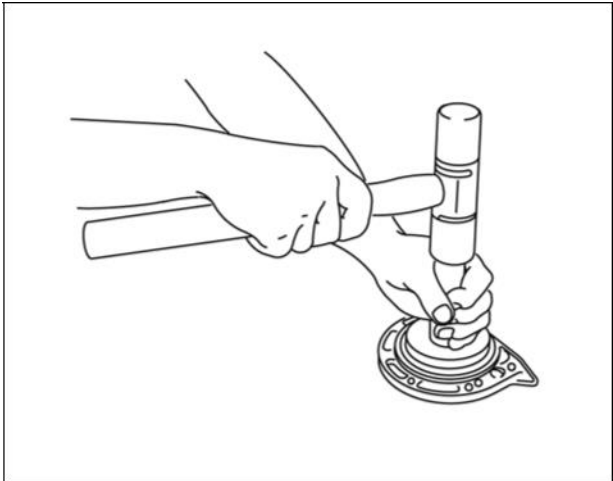

Figure 5
3. Using a Seal Driver #19424, install new seal (Figure 5).